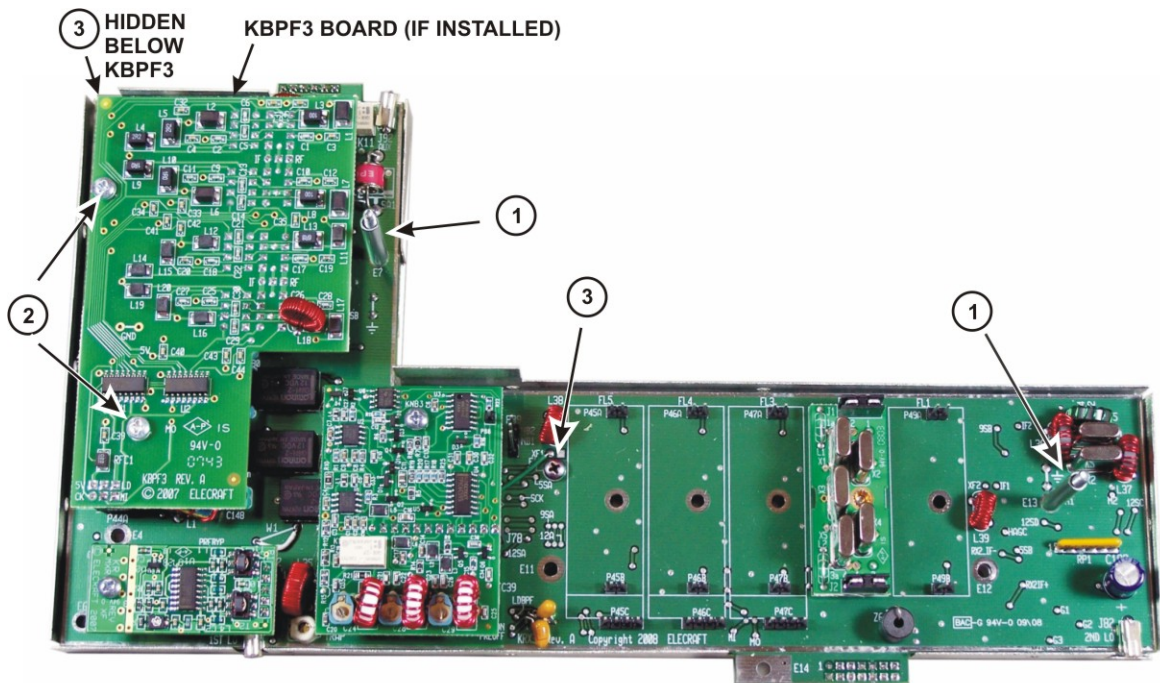

Figure A-5. Removing the RF Board from the Enclosure.
- Remove the RF board from the lower half of the enclosure as follows (see Figure A-5):
- Remove the two sleeves (1) from the long screws.
- If the KBPF3 option is installed, remove the two screws (2) and unplug it from the RF board underneath.
- Remove the two screws (3) securing the KRX3 RF board to the bottom half of the enclosure. These screws thread into bushings attached to the enclosure with screws. If a screw seems to turn without loosening, hold the corresponding screw on the bottom of the enclosure so it cannot turn.
- b) You may leave unoccupied filter positions as long as the order in a) above is followed. This is handy if you plan to add more filters later. Note that only a single filter is installed on the board shown in Figure A-5, leaving space for a wider bandwidth filter to be added in FL1 position and narrower filters to be added to FL3 through FL5 later if desired. More information and examples for planning your filters is included in Appendix A of your K3 Owner's manual.
Place the KRX3 RF board in the bottom shield so that the long screws extend through holes shown in Figure A-5. Press the circuit board down against the standoffs. The board may “snap” into position as the small bumps along the edges of the board slip into the holes in the sides of the shield. When properly positioned, the board will be against the standoffs in the bottom half of the enclosure. If needed, press down gently on the board near the long screws to ensure it is not caught on the threads.
Secure the KRX3 main circuit board to the short standoffs at locations ③ in Figure A-5 with the 4-40 3/16" (4.8 mm) black pan head screws and #4 *split* lock washers you removed earlier. Do not use inside tooth lock washers.
If you removed the KBPF3 board, replace it. Be sure the three connectors are aligned so all the pins engage. The connectors are visible from the sides. Secure the board at locations ② in Figure A-5. Use the 4-40, 1/4" (6.4 mm) pan head screws and *split* lock washers you removed earlier. Do not use inside tooth lock washers.
Replace the unthreaded sleeves over each of the long screws so they rest against the top of the circuit board (locations ① in Figure A-5), then place the top shield over the assembly and adjust its position so the edge of the top fits inside the bottom and rests against the KRX3 main board on all sides. The long screws will pass through holes in the top cover. Secure the top with the knurled nuts finger-tightened only enough to hold the cover in place so it isn't loose. Lock washers are not used under the knurled nuts.